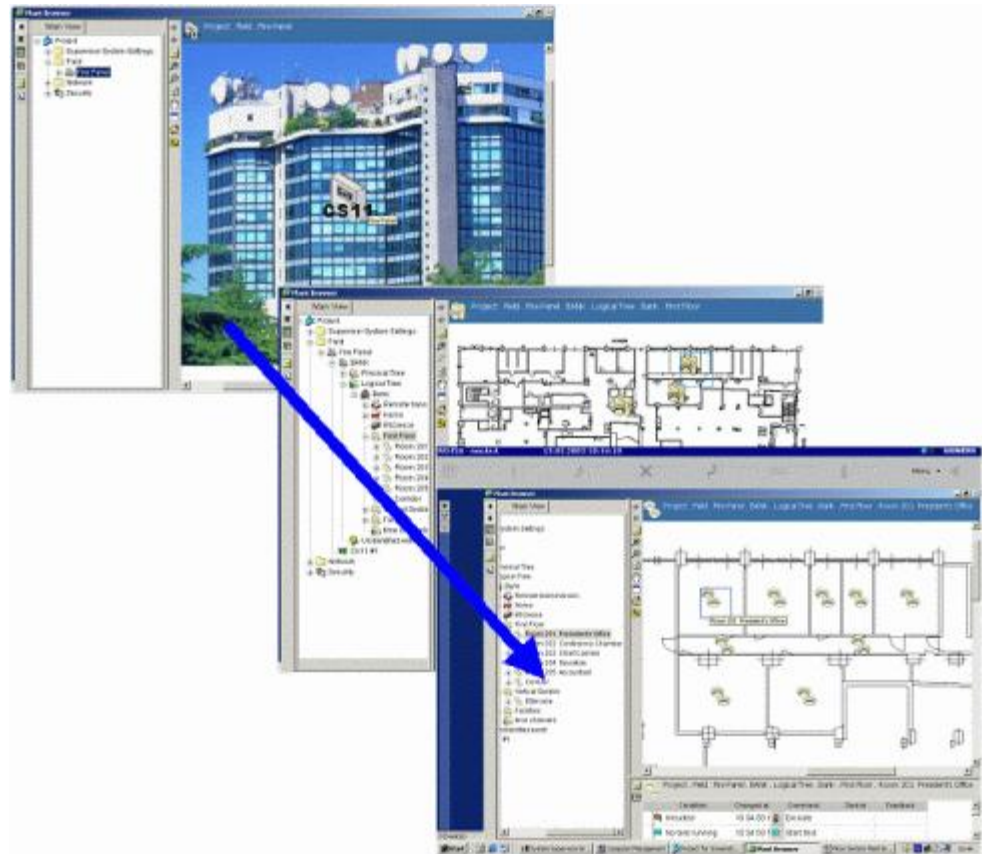

Fig. 14 Navigating in the Plant Browser
- In map view, you move through the facility on a virtual map. (See Fig. 14.) You identify the area or detector that you are interested in, and perform commands on that area using the Point properties page, which is similar in appearance to the information window in text view.